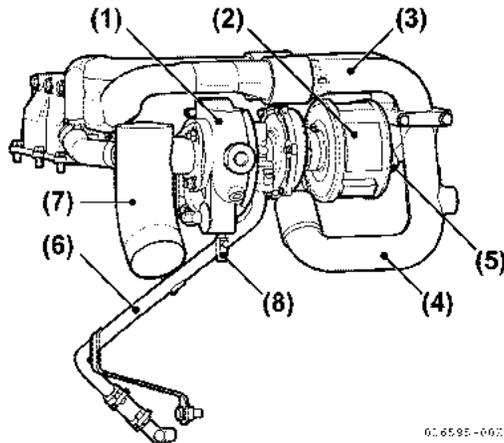

Figure 9-15
2. Install the turbocharger (**Figure 9-15, (1)**) with a new gasket. Tighten nuts to 22.5 to 28.5 N·m (199 to 252 lb-in.)
3. Instal air filter (**Figure 9-15, (2)**).
4. Connect the intake pipe (**Figure 9-15, (3), (4)**) and tighten all clamps and bolts securely.
5. Connect lubricating oil lines (**Figure 9-15, (5), (6)**) and tighten all bolts securely.
6. Connect the mixing elbow (**Figure 9-15, (7)**) and seawater drain pipe (**Figure 9-15, (8)**). Tighten all clamps and bolts securely.